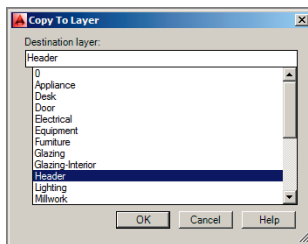

FIGURE 6.15 Selecting a layer in the Copy To Layer dialog box
3. Click Name on the command line. The Copy To Layer dialog box appears (see Figure 6.15). Select Header from the Destination Layer list, click OK, and press Enter.